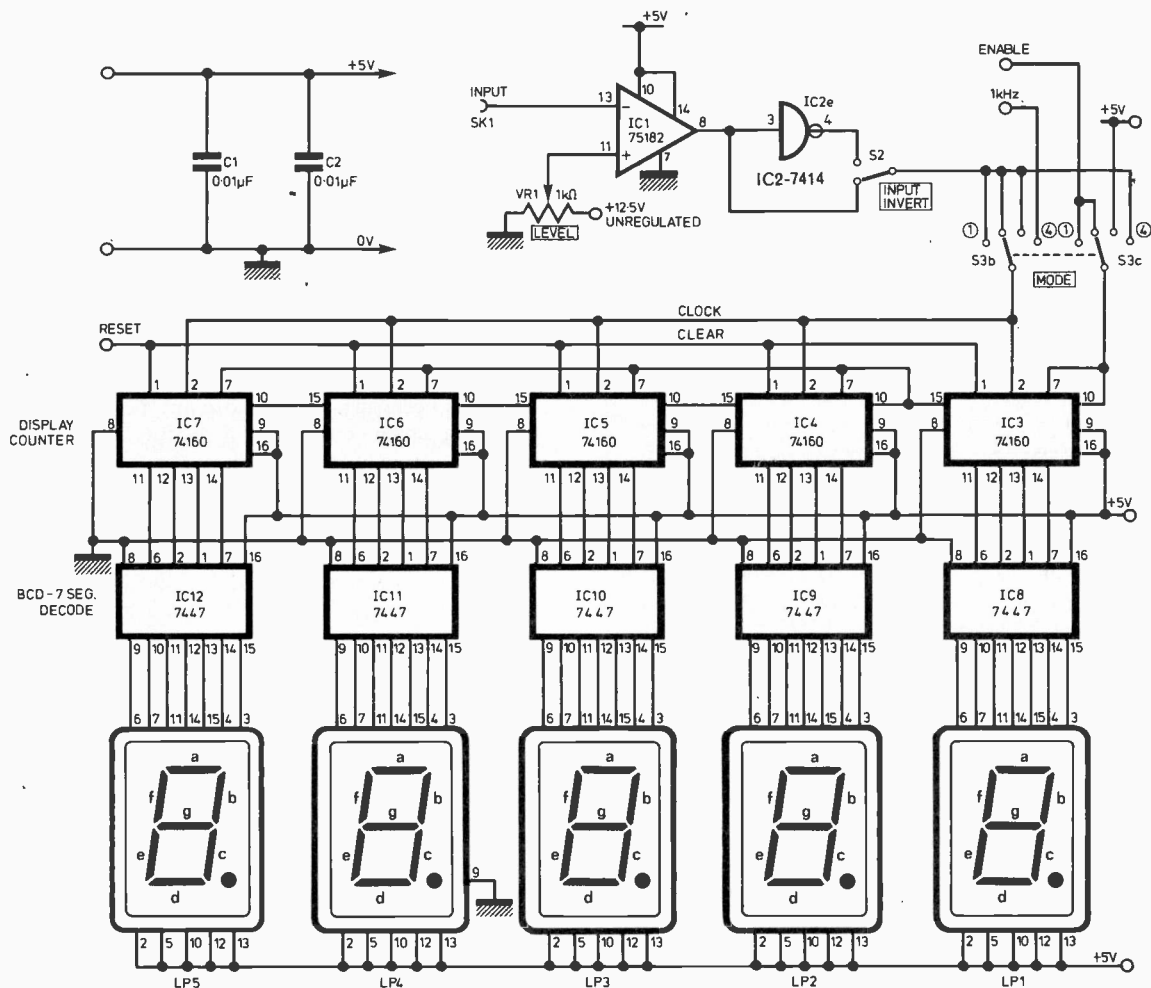

Fig. 1. Input and display circuits. Note that pin 8 of IC1 should go to pin 1 of inverter IC2f. Pin 2 of IC2f then feeds S2 and pin 3 of IC2e
The operation of the Frequency Counter/Timer may be divided into three parts; (1) the input and display counter circuitry, (2) the control and reset circuitry, and (3), the 1MHz oscillator and timebase counter. See Figs. 1, 2 and 4.
The input amplifier chosen was the differential input line receiver SN75182 (see Fig. 1), which has a TTL compatible output, and an input resistance of typically 5kΩ at the inverting terminal. The non-inverting input is taken to the wiper of VR1, which is connected between 0V and 12.5V unregulated. Adjustment of this control determines the voltage level about which the input waveform is measured.